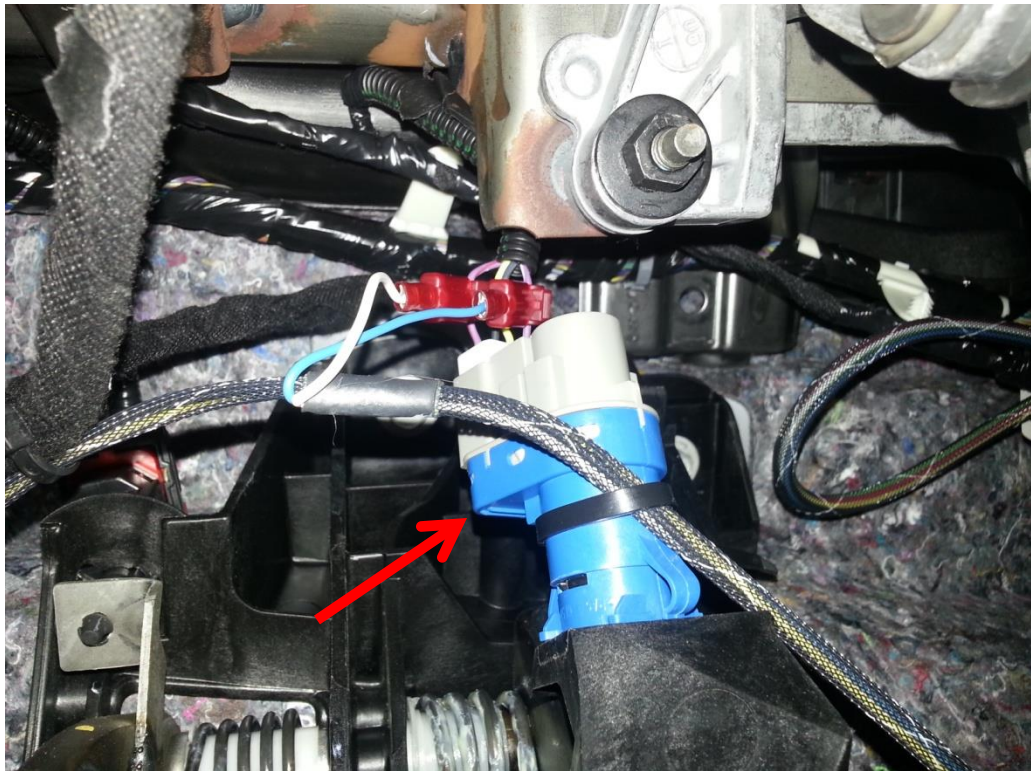

Figure 2 (Brake Sensor)
5. Attach supplied wiretap to the **purple/red** wire on the brake pedal sensor (**Figure 2**).
7. Attach supplied wiretap to the **purple/white** wire on the brake pedal sensor (**Figure 2**).